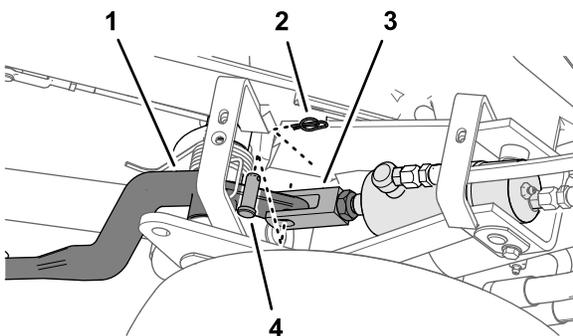
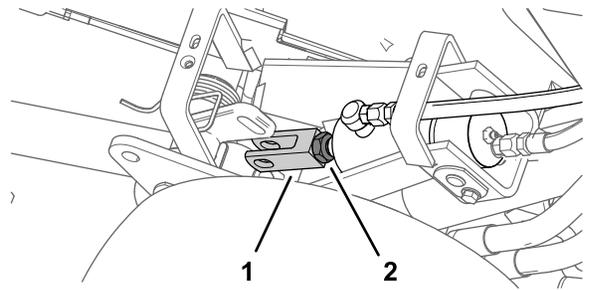

Figure 47
Figure 48
3. Loosen the jam nut securing the clevis fitting to the cylinder of the cutting-unit that needs to be adjusted (Figure 47).
4. Remove the retaining pin and clevis pin (Figure 47)
5. Rotate the clevis until you attain the desired height (Figure 48).
6. Assemble the clevis fitting to the lift arm with the clevis pin and retaining pin, and tighten the jam nut (Figure 47 and Figure 48).